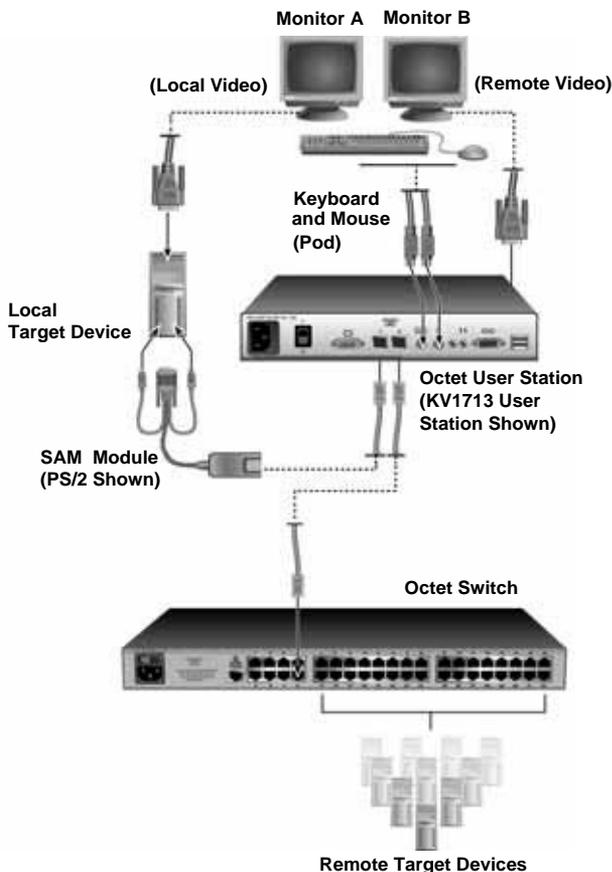

Figure 8-1. Octet Switching System Configuration for Pod Switch Mode
- The Octet switching system configuration should be similar to the example shown in Figure 8-1.
Figure 8-1 illustrates an Octet switching system configured for pod switching. The dual port user station is connected to the Octet switch for remote target device access and also to a local target device. A SAM module is connected to the local server, and the video connector is left unconnected. One monitor is connected to the local target device and another monitor is connected to the user station. In this example, Monitor A will always display video from the local target device attached to the user station. Monitor B will always display video from a selected remote target device attached to the Octet switch. By
2. The OSD Command Line will appear on the remote target device monitor (Monitor B in Figure 8-1).